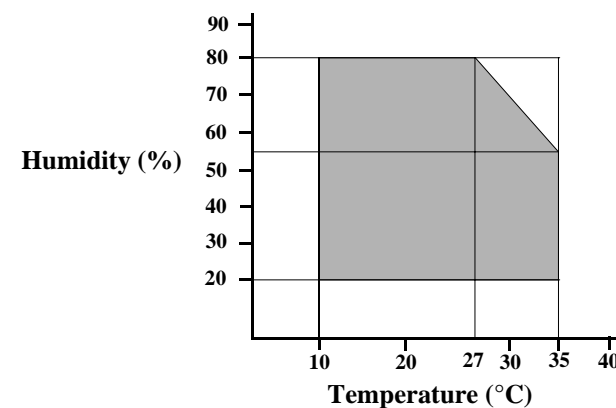

Figure 1-7. Temperature/Humidity range
- Operating : 10 to 35°C (refer to Figure 1-7)
(without condensation / refer to Figure 1-7)